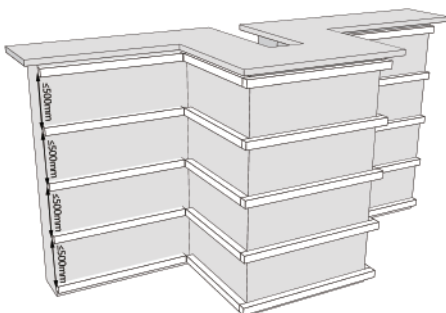

Fig18-2
2. Install the middle according to the center distance requirement. As shown in Figure 18-2: